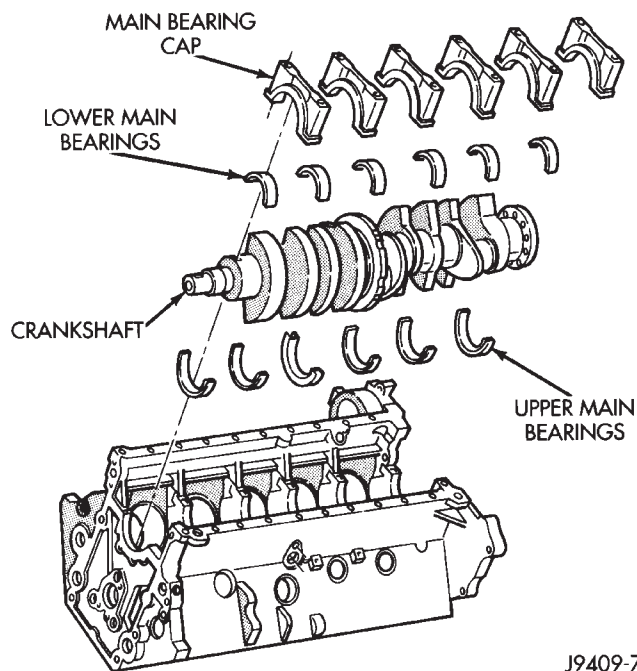

Fig. 50 Main Bearing Identification
(1) Remove the oil pan.
(2) Remove the oil pickup tube.
(3) Remove the timing chain cover and gasket. Remove and discard the front crankshaft oil seal and cover gasket.
(4) Remove Transmission (refer to Group 21, Transmission).
(5) Remove the rear seal retainer. Remove and discard the crankshaft rear oil seal and retainer gasket.
(6) Identify main bearing caps before removal (Fig. 50). Remove bearing caps and bearings one at a time.